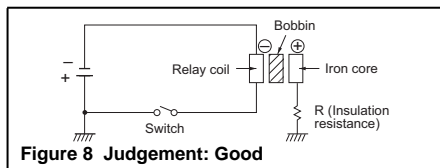

Figure 8 Judgement: Good
- The \oplus side of the power source should be connected to the chassis. (Refer to Figure 8) (Common to all relays)